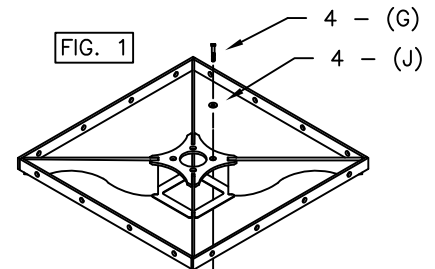

FIG. 1
Slide (C) onto end of (D1), matching the square opening with the square post until it rests on the top of the post. Secure (C) to (D1) engaging four (G) and (J) into pre welded t-nuts inside post, see FIG. 1. Draw the bolts to a snug fit with wrenches.